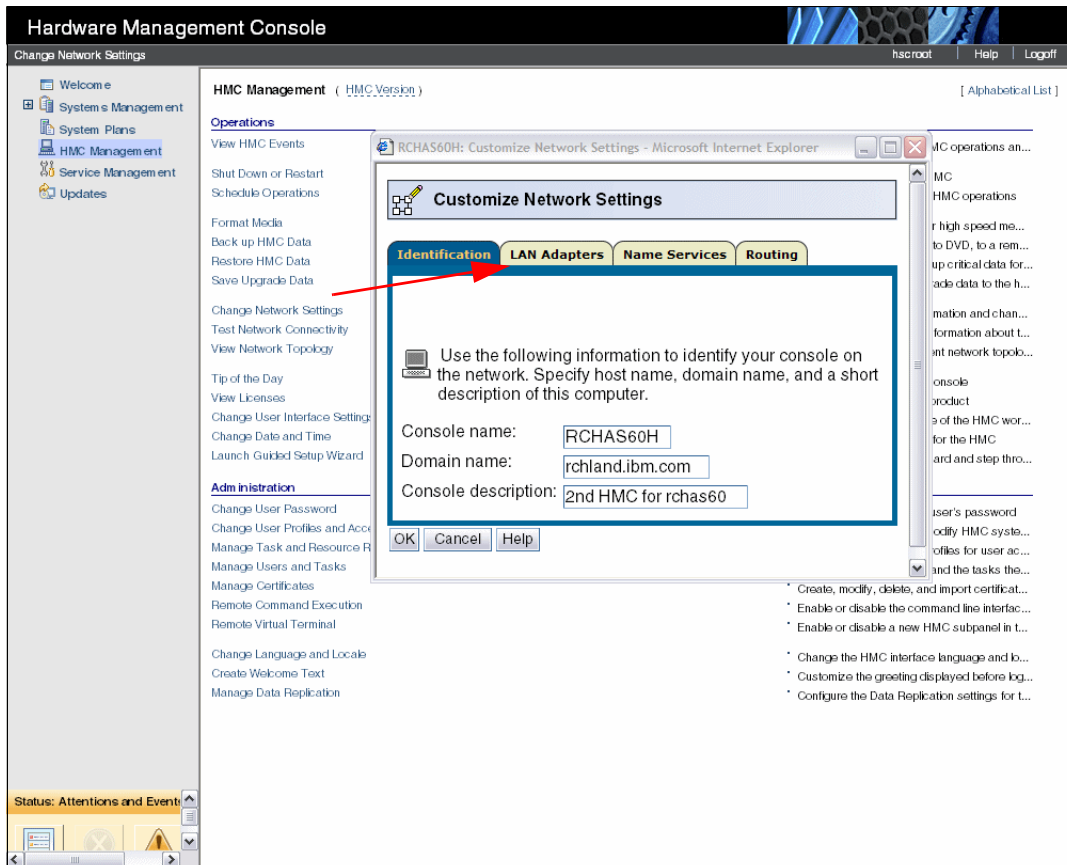

Figure 4-10 Customize Network Setting - LAN Adapters for enabling RMC
2. Select **Change Network Settings**, and in the Customize Network Settings window, select the LAN Adapters tab, as shown in Figure 4-10.